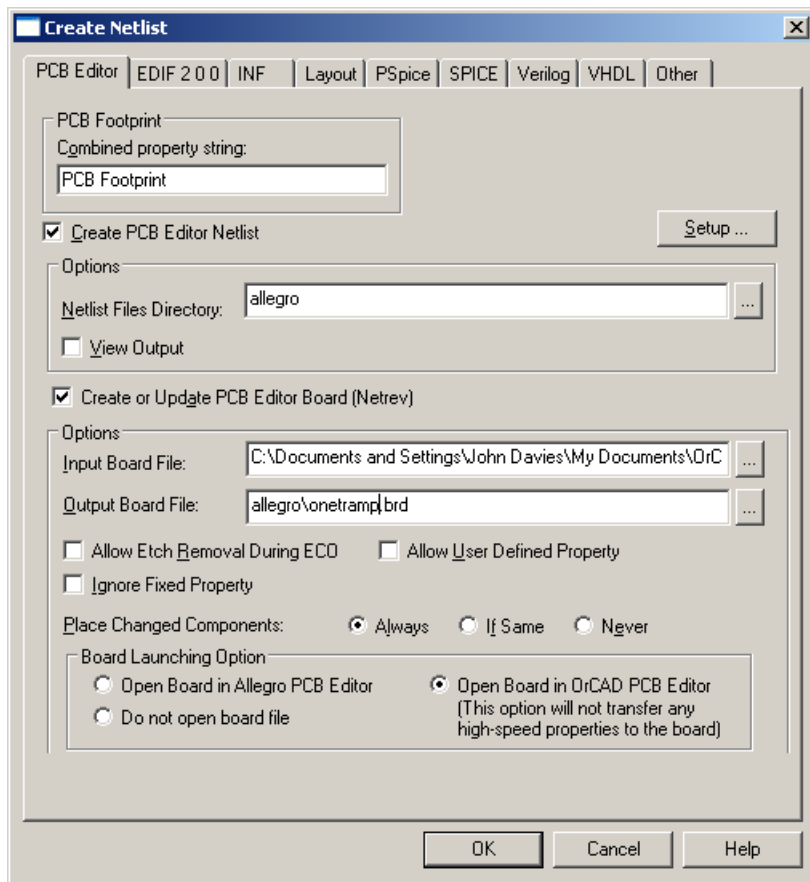

Figure 4. Completed dialogue box for netlisting the design and sending it to PCB Editor. Your file names will be different.
2. Select Tools > Create Netlist. . . from the menu bar, which brings up the dialogue box in figure 4 on the preceding page. Make sure that the PCB Editor tab is active.
8. The entries in the dialogue box should now resemble figure 4 on the preceding page except except for the pathnames. Click OK to dismiss this dialog box and start the netlister.
Note. *The netlister in some versions of 16.x has a nasty bug (the pxllite bug).* The symptoms are that the Netlist Files Directory does not show as allegro automatically in figure 4 on the previous page and that nothing happens when you run the netlister – not even an error message. Netlisting for PCB Editor must be performed once on each computer by a user with administrator privileges before it will work for anybody else.